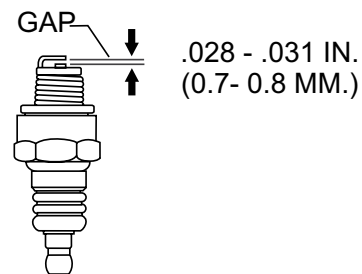

Figure 24. Spark Plug Gap
1. Remove and clean spark plug (Figure 24) with a wire brush if it is to be reused. Discard spark plug if the insulator is cracked or chipped.